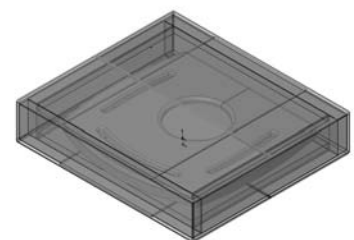

Figure 3 - Bahr stove ceramic packaging
- one contains the ceramic top (the box containing the ceramic is stacked on top of the structure package) fig.3